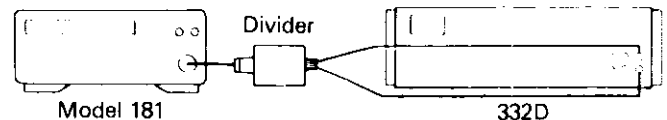

FIGURE 5-5. Preamp Calibration
B. Connect the DC calibrator, 1000 to 1 divider and the 181 as shown in Figure 5-5. Allow approximately one minute for thermal EMFs to settle out. Turn HI RES on